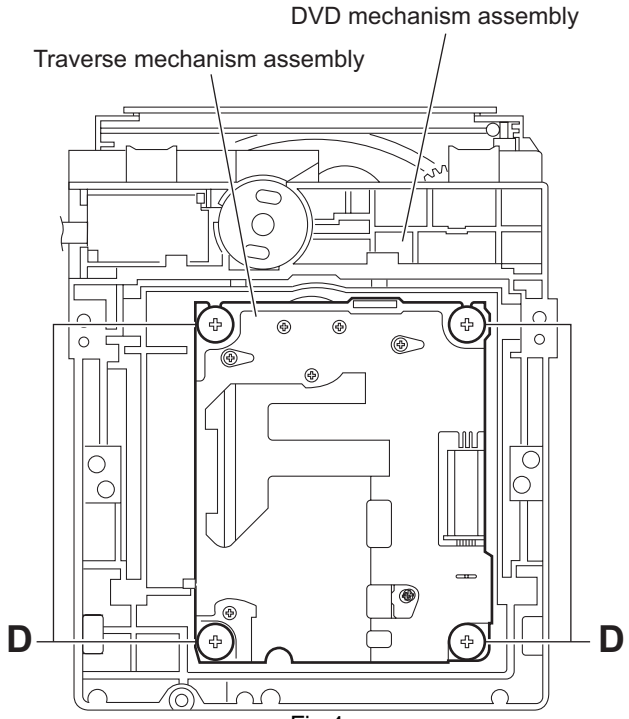

Fig.4
- (4) Remove the four screws **D** attaching the traverse mechanism. (See Fig.4)